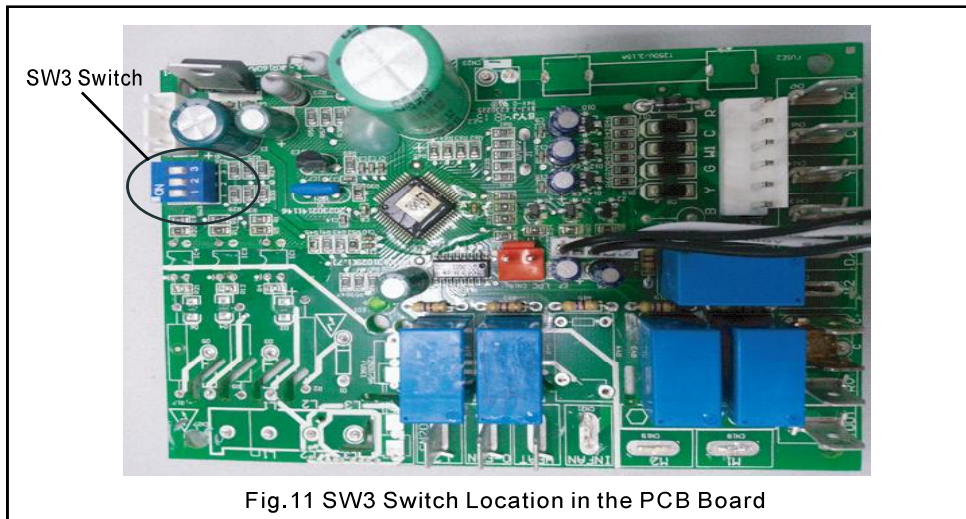

Fig.11 SW3 Switch Location in the PCB Board
7.4.1 When SW3-3 switch is set to “ON”(See in Fig 11), the mode will start up in any of the following conditions:
7.4.2 When SW3-3 switch is set to "OFF"(See in Fig 11), the mode will start up in any of the following conditions: